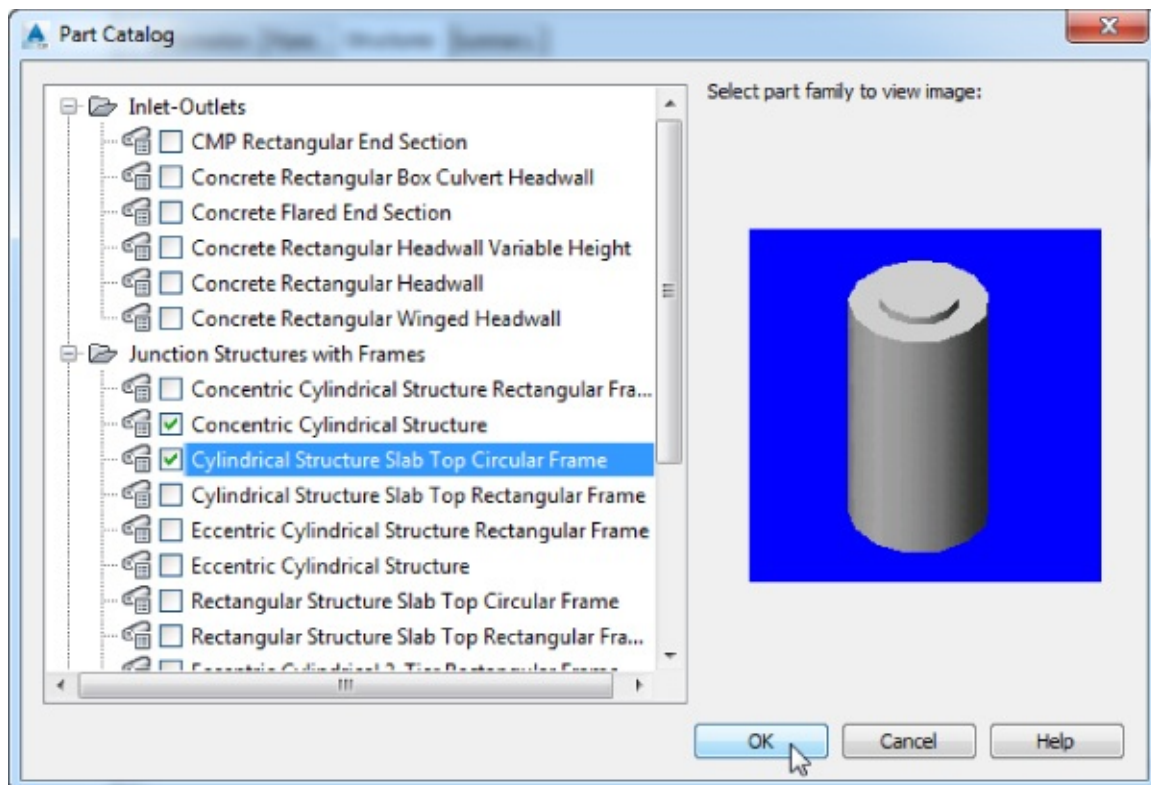

Figure 13.21 Adding structure part families
20. In the Part Catalog dialog, locate the Junction Structures With Frames grouping and place a check mark next to Concentric Cylindrical Structure and Cylindrical Structure Slab Top Circular Frame (in the metric drawings, the structure descriptions end with SI), as shown in Figure 13.21. Click OK.